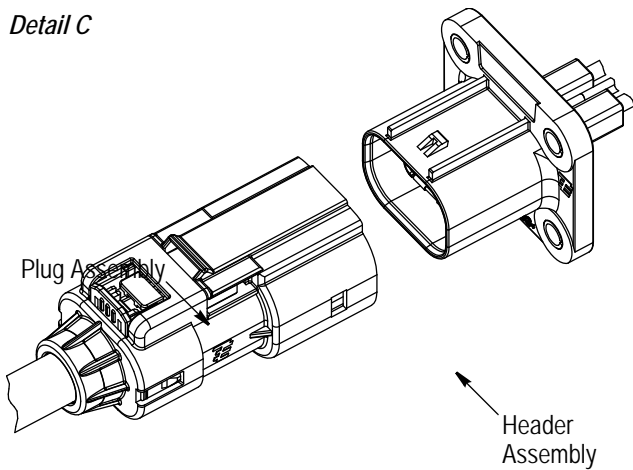

Figure 15
3. Depress the primary latch (located at the back of the plug assembly), and simultaneously pull the plug assembly straight away from the receptacle assembly until it stops. DO NOT pull the cable or cable seal retainer. DO NOT force the assemblies apart as the assemblies are not yet fully unmated. See Figure 15, Detail A.
4. Depress the secondary latch (located in the window in front of the primary latch). See Figure 15, Detail B. Depending on the plug assembly style, a small screwdriver is needed to depress the secondary latch. While depressing the secondary latch, pull the plug assembly and header assembly apart. DO NOT pull the cable or cable seal retainer. See Figure 15, Detail B.
The header assembly and plug assembly are now unmated and disconnected as shown in Figure 15, Detail C.